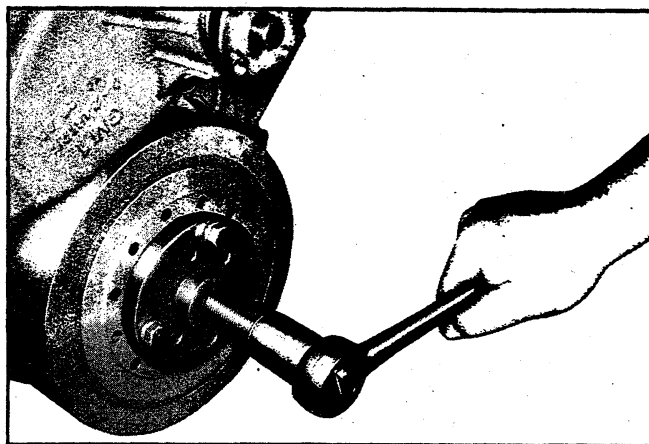

Fig. 12V - Removing Torsional Damper
5. Install Tool J-6978 to torsional damper and turn puller screw to remove damper from crankshaft (fig. 12V).